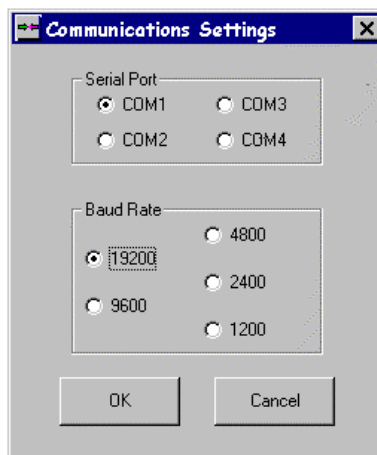

Figure G-3 Communications Settings Dialog Box
5. The **Communications Settings** dialog box (Figure G-3) appears. Select the serial port that the TouchProbe Downloader Plus is connected to and the communication baud rate setting (default is COM1 and 19200 baud rate) and click **OK**.